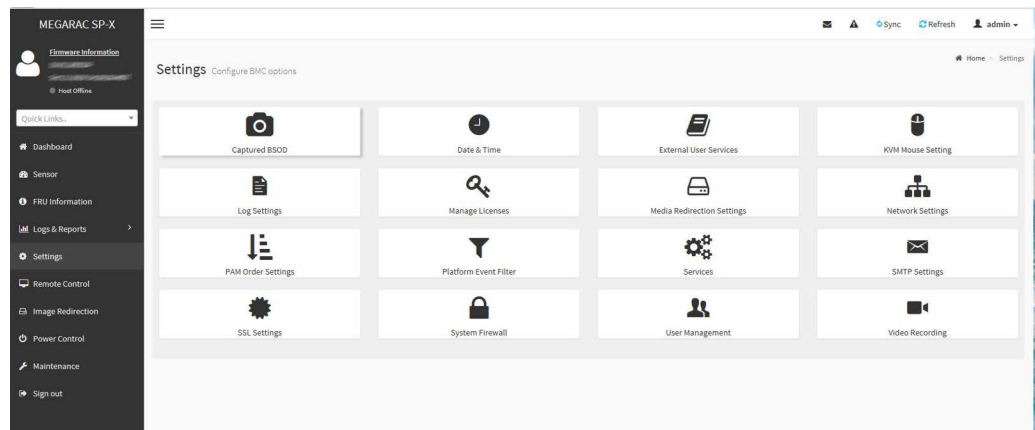

Figure 5.14 Settings menu
8. The **Settings** menu enables the user to define network settings, virtual media, etc. Figure 5.14 displays the list of available configuration options.